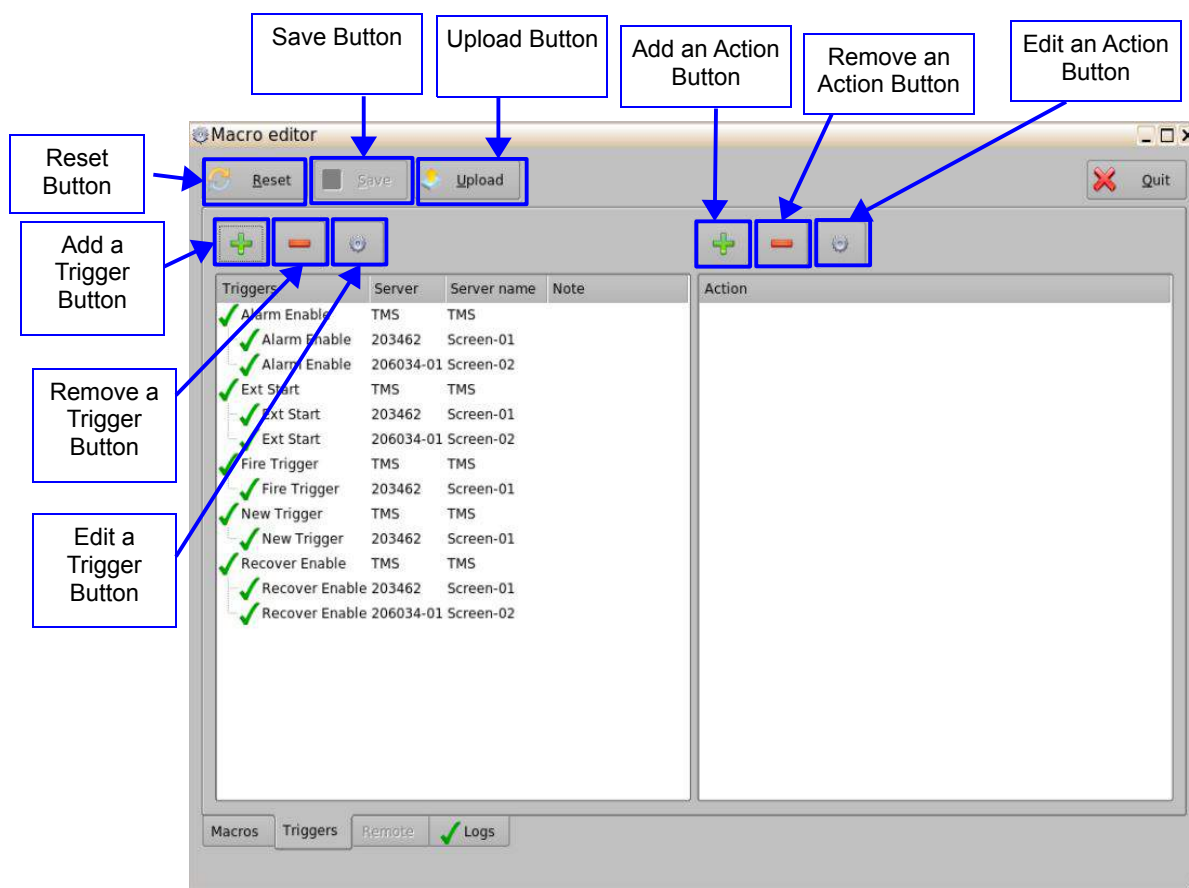

Figure 27: Macro Editor – Trigger Tab Window
- Click on the Add a Trigger button (Figure 27).
- Click on the Upload button (Figure 27).
- Click on the Reset button (Figure 27).
- Click on the settings button or double click on the trigger itself to open the Trigger Settings window (Figure 27).
- Click on the Save button to save the settings applied to the Macro (Figure 27).
- Click on the Delete button to delete the selected Trigger (Figure 27).
- Click on the Save button when finished (Figure 27).
- Click on the Add an Action button to add an action to the selected trigger (Figure 27).
- Click on the Save button to save the configuration (Figure 27).